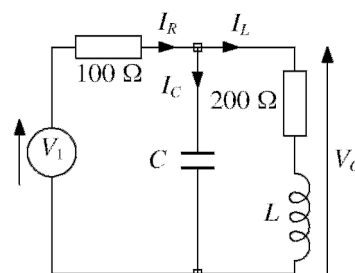

Figure 3a
3. a. The circuit of figure 3a is driven by a step waveform that is  $-3\text{ V}$  for all  $t < 0$  and  $6\text{ V}$  for all  $t > 0$ . Evaluate  $I_C$ ,  $I_R$ ,  $I_L$  and  $V_O$  at  $t = 0^-$  and  $t = 0^+$ .